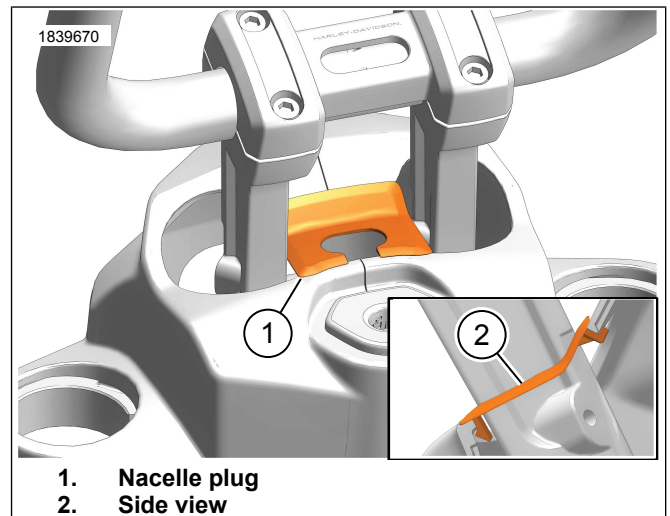

Figure 5. Nacelle Plug
7. See Figure 5. Install nacelle plug.
- a. Install nacelle plug (1) at top of nacelle.
- c. Pivot nacelle plug (1) down and snap into place.